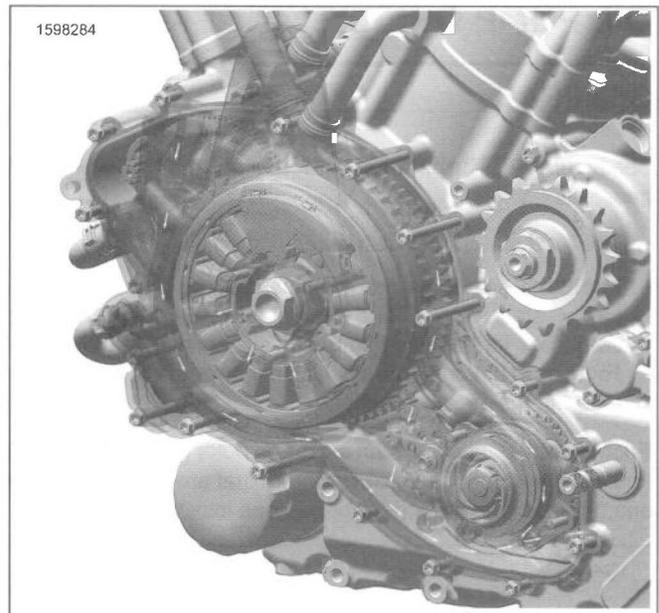

Figure 4-3. Stator Cavity
2. See Figure 4-3. The stator cavity, located on the left side of the engine, catches return oil from the following areas.